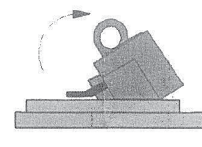

Figure 4
4. Flip the cover over the lockout, blocking access to the thumb wheel (figure 4).